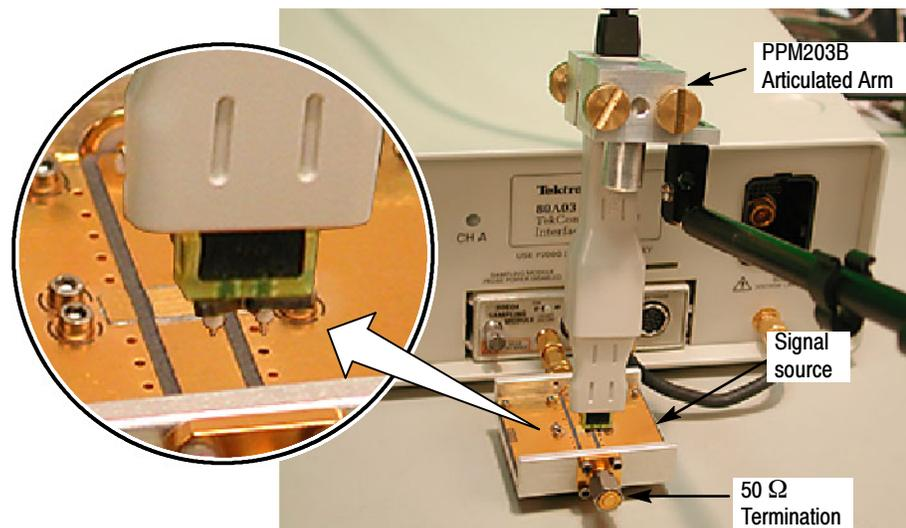

Figure 23: PPM203B Articulated Arm with the Handheld adapter
3. Probe the calibration fixture using the Handheld adapter (see Figure 23).